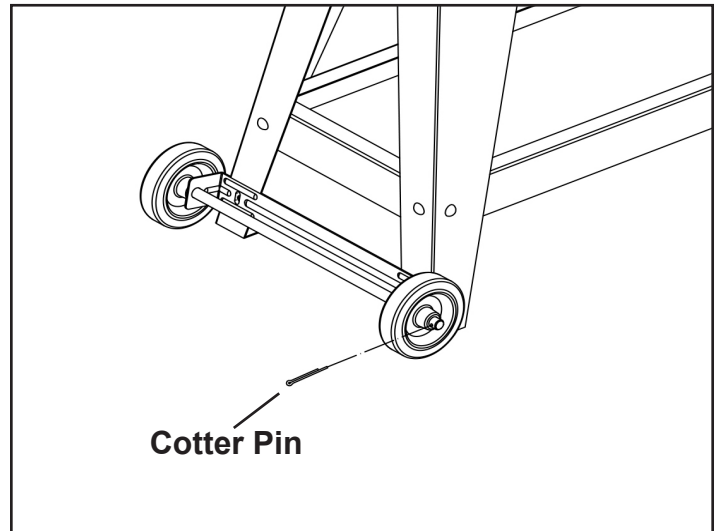

FIGURE 4
- Slide the shaft through the holes in the wheel mounting bracket. Slide the wheels onto the shaft on the outside of the mounting bracket, and secure them with the cotter pins. SEE Figure 4.